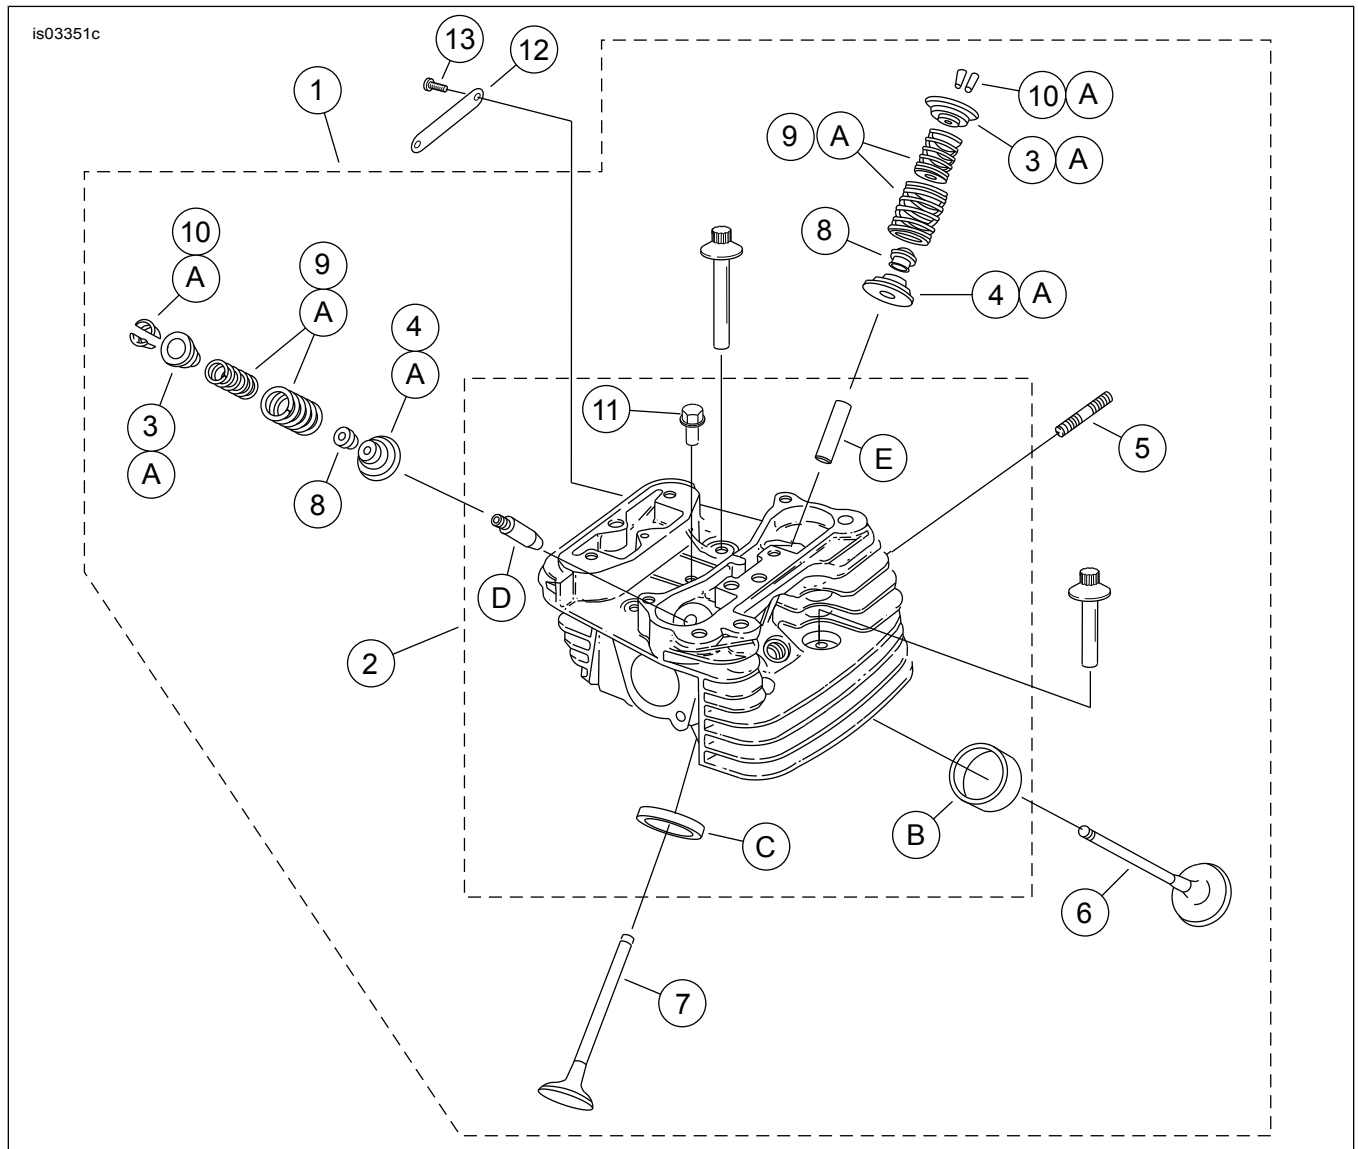

Figure 9. Service Parts: SE120R Screamin' Eagle Pro Race-Use Crate Engine
See Figure 9. Replacement cylinder heads (1) have "CNC PORTED" medallions. If desired, reuse or purchase new "120R" medallions (12).